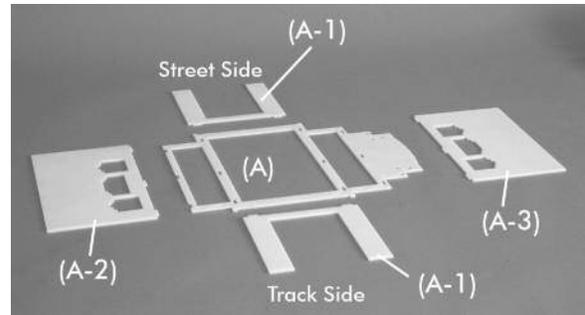

Figure 1
Lay part (A) on your work surface with the engraved letters facing up. Insert the tabs on parts (A-1) x2, (A-2) and (A-3) into the slots in the Base (A) and glue in place. Glue the walls to each other as well. Make sure the engraving is facing out on all the parts. Check that all the tabs are seated properly and that the assembly is square. See Figures 1 and 2